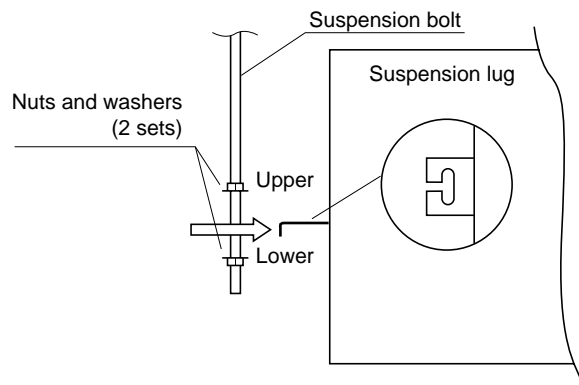

Fig. 3-76
- (3) Thread the 2 hexagonal nuts and washers (field supply) onto the 4 suspension bolts as shown in Figs. 3-76 and 3-77. Use 2 sets of nuts and washers (upper and lower), so that the unit will not fall off the suspension lugs.